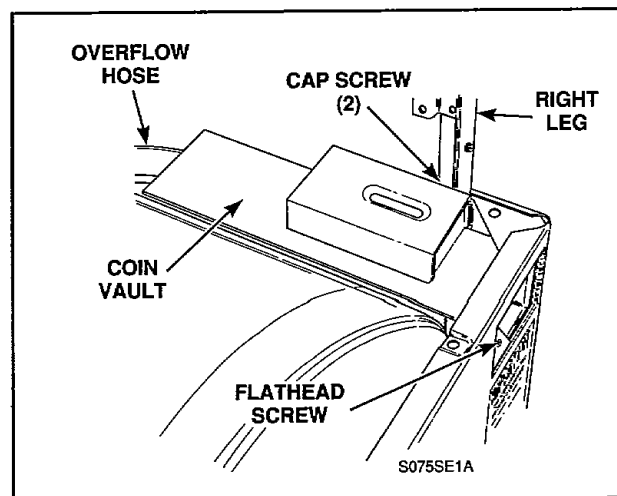
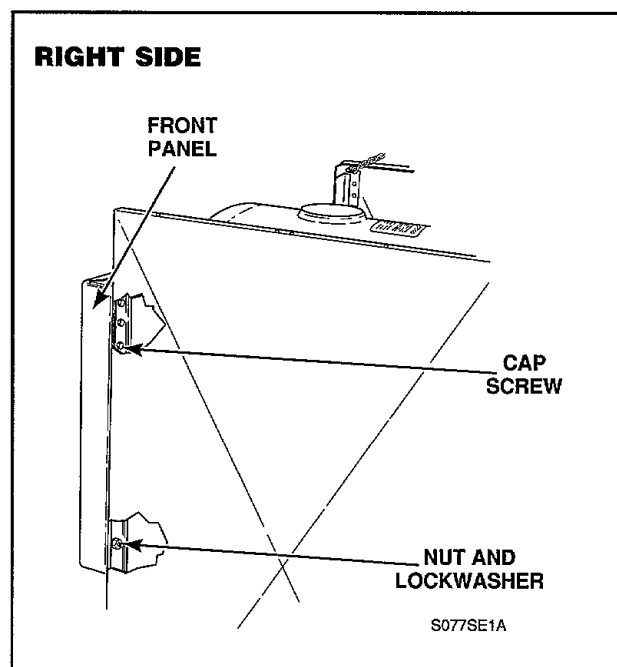
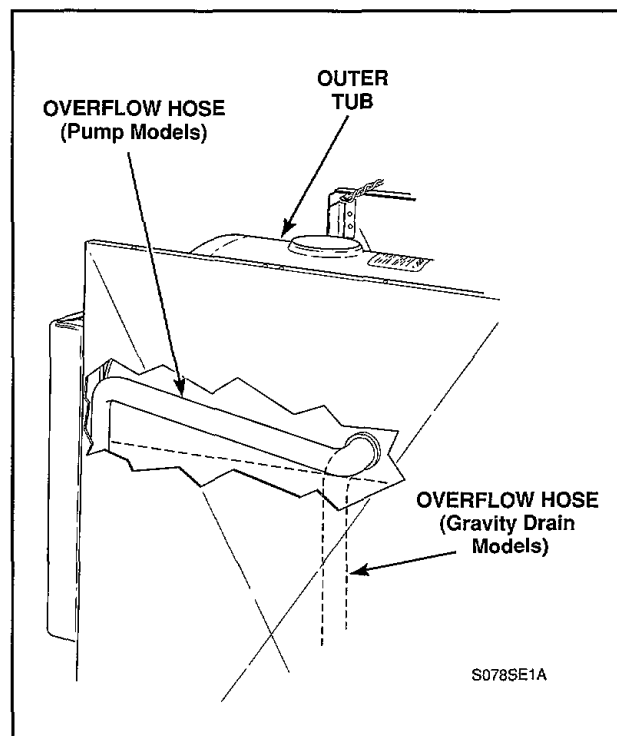

Figure 16
Figure 18
Figure 20
- i. Remove flathead screw and locknut holding coin vault to front panel, *Figure 16*.
- j. Remove two cap screws and lockwashers holding coin vault to right leg, *Figure 16*.
- k. **METERED MODELS** — Remove flathead screw and locknut holding coin vault to front panel, *Figure 16*, then remove two cap screws and lockwashers holding coin vault to right leg, *Figure 16*.
- m. Remove nut and lockwashers (bottom), and cap screw (top), *Figure 18*, holding front panel assembly to right leg.
NOTE: PUMP MODELS — Overflow hose, *Figure 16*, may have to be pushed down to gain access to cap screw holding top of front panel assembly to right leg, *Figure 18*.
k. **METERED MODELS** — Remove flathead screw and locknut holding coin vault to front panel, *Figure 16*, then remove two cap screws and lockwashers holding coin vault to right leg, *Figure 16*.
m. Remove nut and lockwasher (bottom), and cap screw (top) holding front panel assembly to right leg, *Figure 18*.
NOTE: PUMP MODELS - Overflow hose, *Figure 20*, may have to be pushed down to gain access to cap screw holding top of front panel assembly to right leg, *Figure 18*.